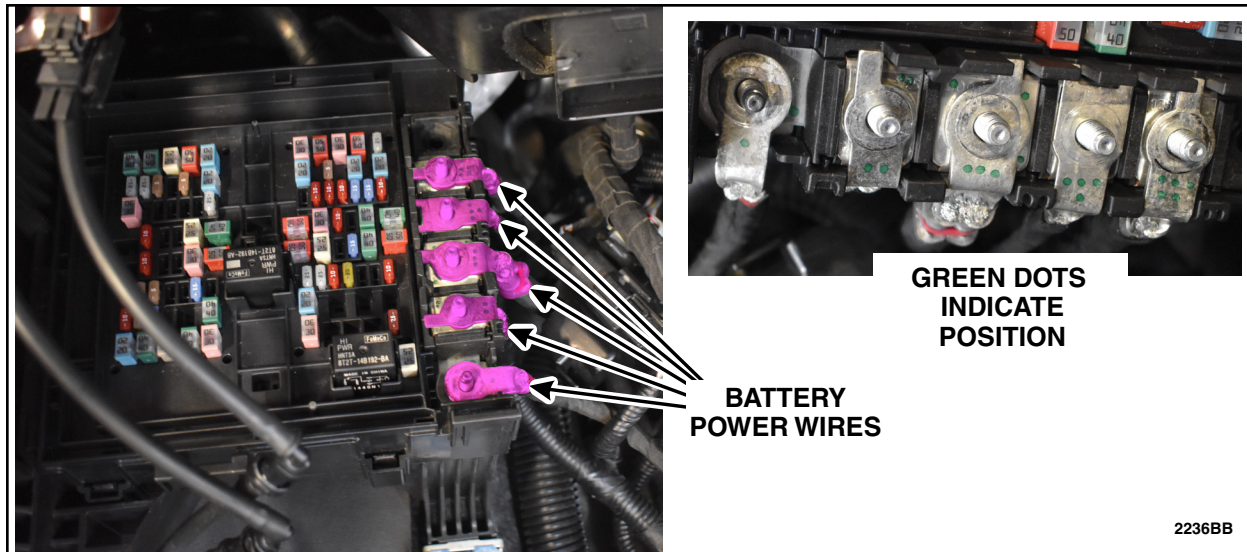

FIGURE 7
7. Remove battery power wires and make sure to document their position. See Figure 7.